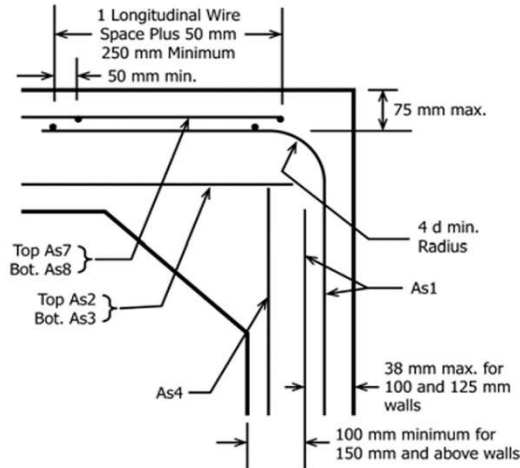

FIG. 5 Detailed Reinforcement Arrangement
middle of either slab and connected, welded splices are not prohibited in the connection. When used, As₇ and As₈ shall be lapped with As₁ as shown in Figs. 5 and 6 (see also Fig. 7 and Fig. 8). If welds are made to circumferential reinforcement, they shall be made only to selected circumferential wires that are not less than 450 mm apart along the longitudinal axis of the box section. Also, when spacers are welded to circumferential wires, they shall be welded only to these selected circumferential wires. There shall be no welding to other circumferential wires, except it is not prohibited for As₄ to be lapped and welded at any location or connected by welding at the corners to As₂ and As₃. No welds shall be made to As₂ or As₃ circumferential wires in the middle third of the span (see Fig. 9 for welding restrictions). When distribution reinforcement is to be fastened to a cage by welding, it shall be welded only to longitudinal wires and only near the ends of the box section. If welds are made to Grade 420 reinforcing bars, weldable bars conforming to Specification A706/A706M shall be used. The spacing center to center of the circumferential wires shall not be less than 50 mm nor more than 100 mm. The spacing center to center of the longitudinal wires shall not be more than 200 mm.
(أولاً) ترجمة كل ما في الشكل ه (FIG. 5):
١٥. FIG. 5 Detailed Reinforcement Arrangement